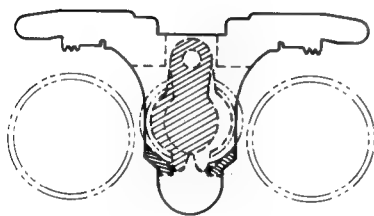

Fig. 5-5
- a. The slide brake at bottom position (Refer to Fig. 5-5)